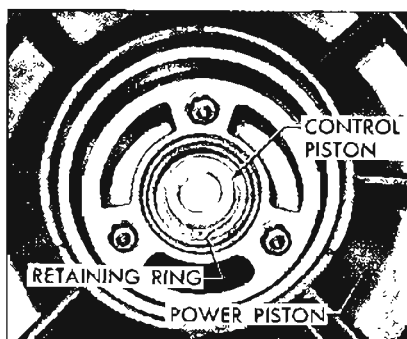

Figure 9-28—Retaining Ring Location
6. Depress the operating rod slightly and remove the retaining ring from the control piston. See Figure 9-28.
2. Lubricate the control piston with silicone grease, insert the assembly into the power piston and install the retaining ring in its groove. Wipe all lubricant off the end of the control piston (see Figure 9-28). Check the location of the floating valve seal to be sure that it is seated against the shoulder of the power piston.